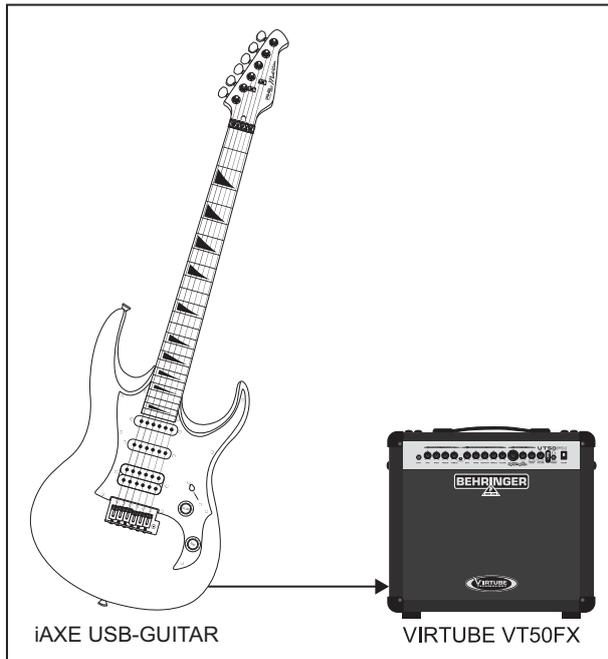

Fig. 4.2: Connection to a guitar amp
- 3 The ¼" TS connection can be used to connect the iAXE guitar to any standard guitar amplifier. (See Fig. 4.2)